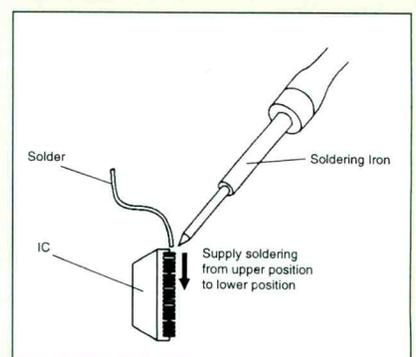

Figure 6.
2. Supply the solder from the upper position of the IC leads sliding to the lower position of the IC leads (Figure 6).